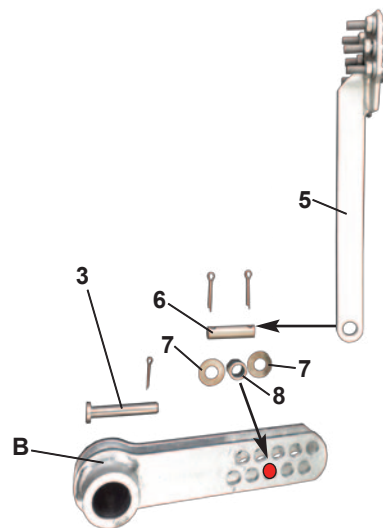

Fig. 7: Mounting the head of clamping crank
- Connect the head of clamping crank (5) with the operating crank (B), attachment point 142 mm. Therefore mount the bolt (6) with the sleeve (7) and the both washers (8) and secure with the two splints ($\varnothing 4 \times 25$ mm) (see Fig. : 7).